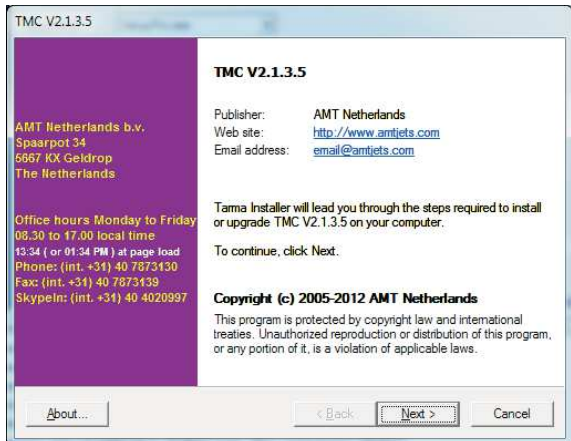

figure 8.1
3. Screen figure 8.1 will appear.